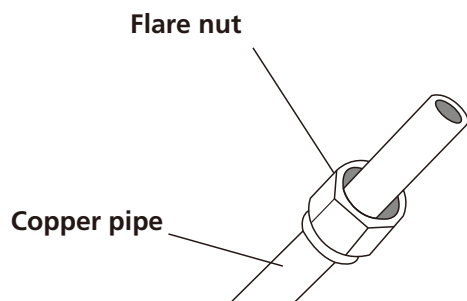

Fig. 5.3
3. Place flare nuts on both ends of pipe. Make sure they are facing in the right direction, because you can't put them on or change their direction after flaring. See **Fig. 5.3**.